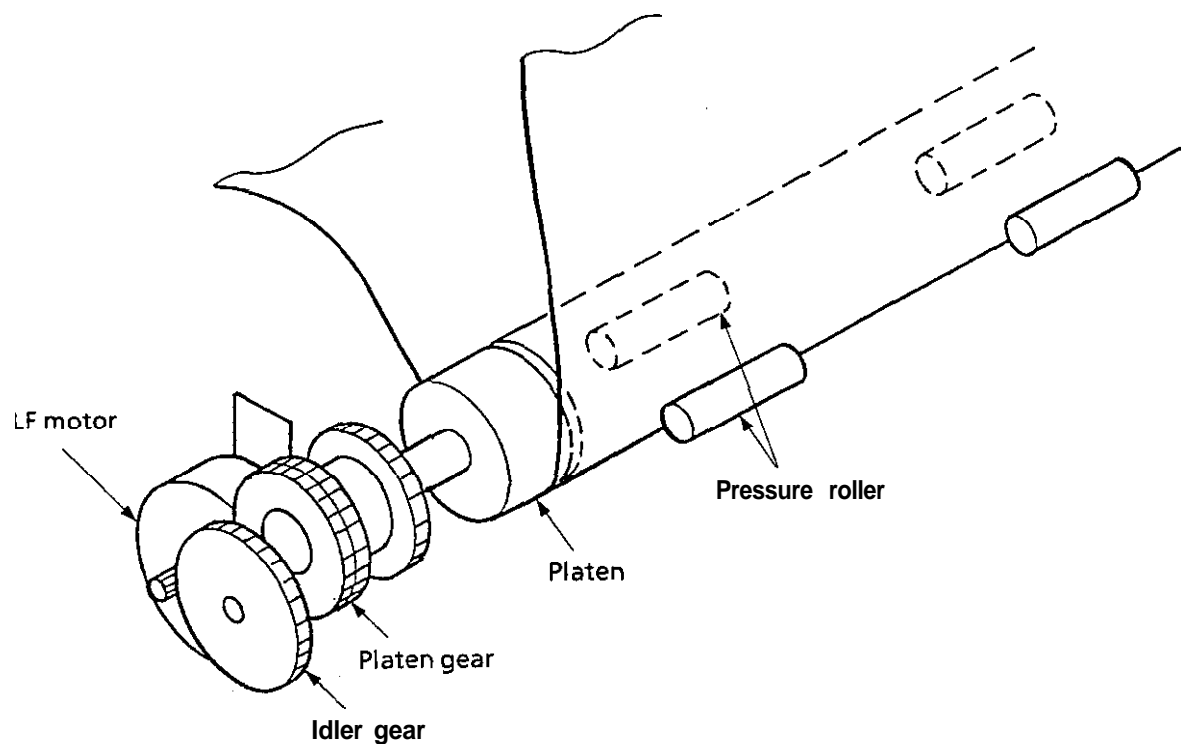

Figure 3-7
- (1) Cut-sheet feed operation (See Figure 3-7.)